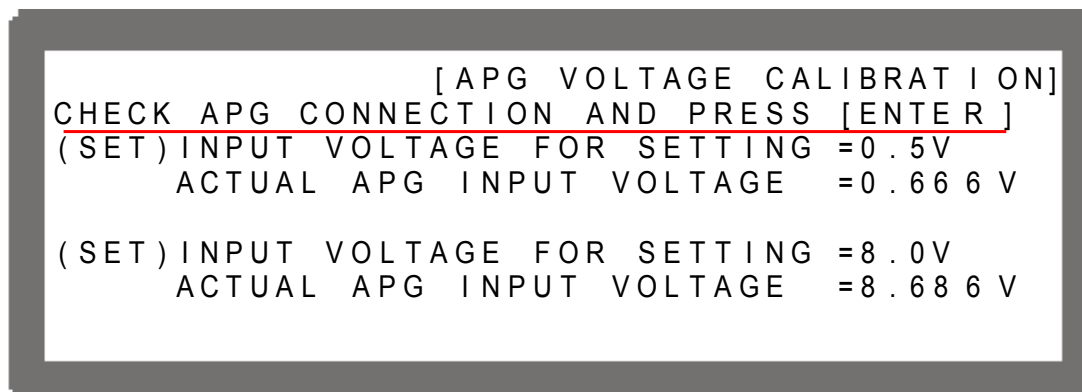

Figure 3-118
- Press "ENTER" (↵) to confirm entering into APG Voltage Calibration options as Figure 3-118 shows.